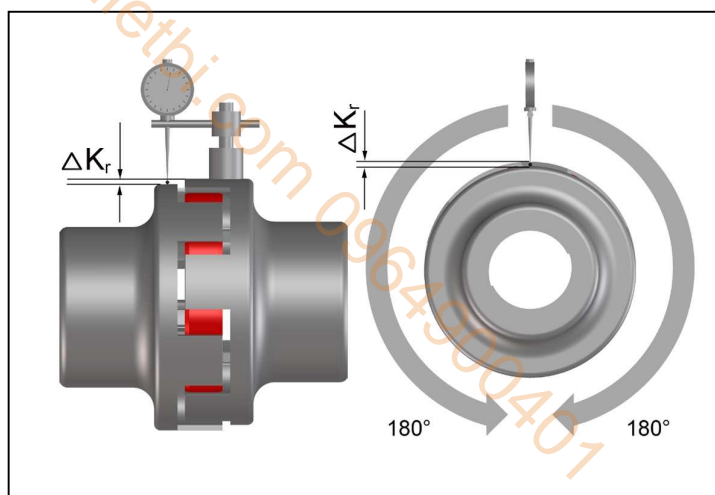

Fig. 7
- Measure one complete revolution (360°). Determine the largest deviation  $K_{r1}$  and the smallest deviation  $K_{r2}$  (Fig. 7). Calculate the radial misalignment: